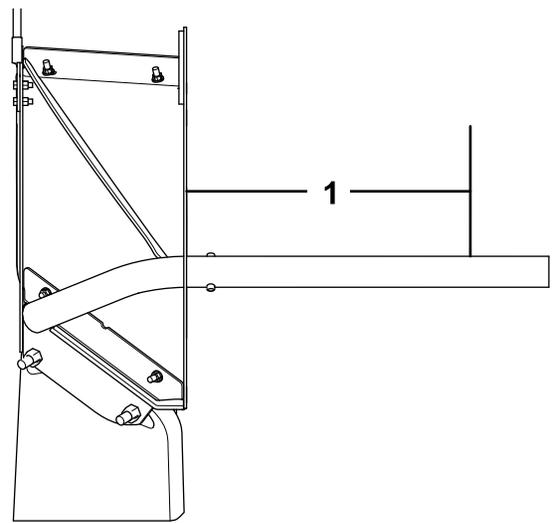

Figure 8
12. If you have a plow with serial number BC114675 or newer, cut the plow wing tube to the dimensions listed below (Figure 8).